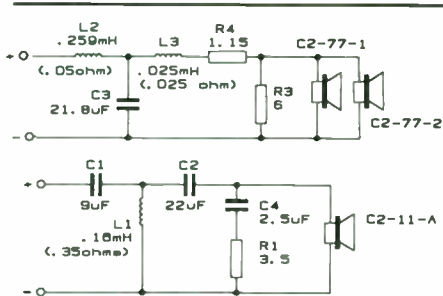

FIGURE 7: Passive crossover values as generated by SPEAK.
**CONNECTIVE ISSUE.** The passive crossover (Fig. 7) is mounted externally in a separate, oak-veneered plywood enclosure (Photo 2). The external crossover's practical benefit is accessibility for fine-tuning crossover components. Its theoretical benefit is isolation from me-